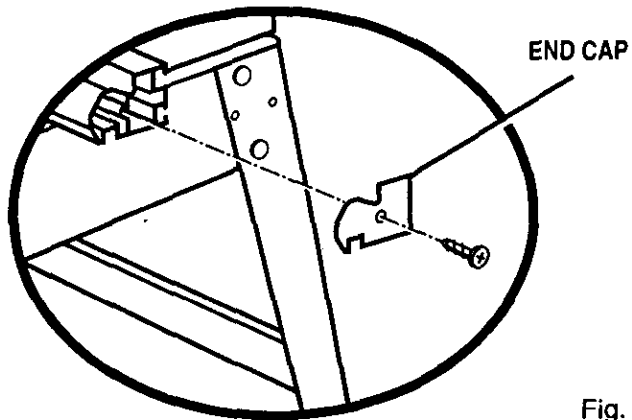

Fig. 20
- Put the end caps on rail ends. Insert the screws and tighten with a phillips screwdriver. See Figure 20.